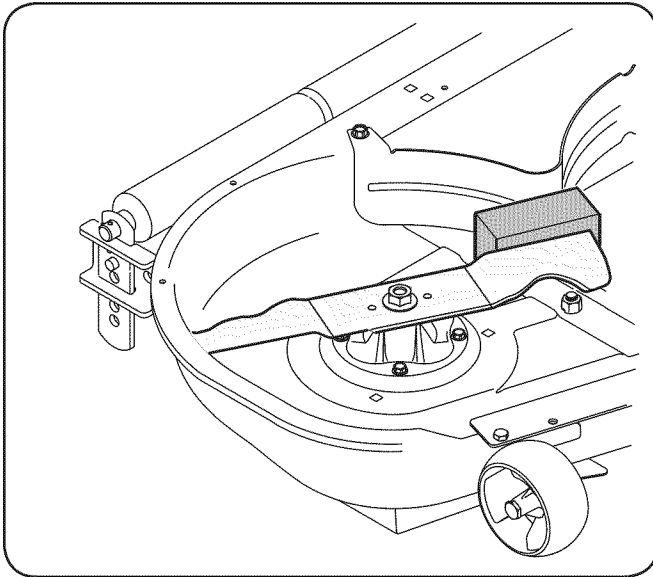

Figure 7-3
2. Place a block of wood between the center deck housing baffle and the cutting blade to act as a stabilizer. See Fig. 7-3.
3. Remove the hex flange nut that secures the blade to the spindle assembly. See Fig. 7-3.